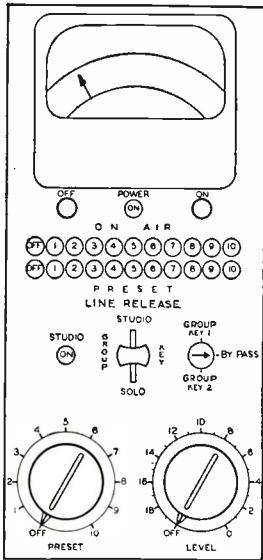
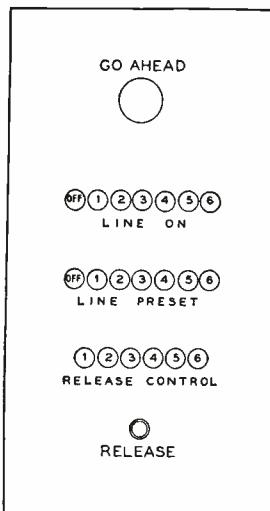
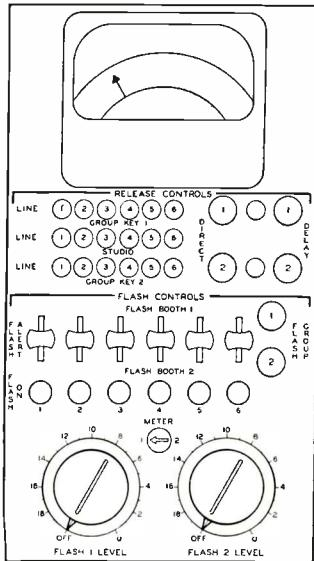

Figure 2
Figure 3
Figure 4
The features and flexibility of this system can be readily understood by a review of the functions of the controls and indicators on the Individual Line Control Panel for Channel 1 and the Studio Control Signal Indicator Panel for Studio 1 shown in detail in Figures 2 and 3, page 24. The control panels of the other five lines and nine studios are identical. The Group Release and Flash Control panel is also shown detailed in Figure 4, page 24, and will be described below.
The ON and OFF push buttons and associated POWER ON lamp are located on each Line Control Panel (see Figure 2) immediately beneath the Line Volume Indicator Meter. These push buttons control d-c energizing power to the lamps and relays of the respective line unit. This enables positive control by the Master Control Operator of program dispatching to each line and prevents unauthorized connection to the line.
channel, if the manual PRESET switch (lower left-hand corner) is in the OFF position, the POWER ON lamp and the OFF lamps in both the ON AIR and PRESET rows together with the OFF lamps in both the LINE ON and LINE PRESET rows on the Studio Control Signal Indicator Panel (see Figure 3), will be illuminated. The manual PRESET knob is used to select the studio to be connected to the line at the next operation of the LINE RELEASE key. When this knob is turned to 1, the number 1 PRESET lamp illuminates on the Line Control Panel, and the corresponding number 1 PRESET lamp on the Control Signal Indicator Panel in the respective Studio No. 1 will give a like indication showing that the Studio No. 1 is preset for connection to line 1. The respective OFF lamps, of course, extinguish.
The LEVEL knob at the lower right hand corner of the Control Panel (Figure 2) and
Above it was mentioned that release control can be extended to other points than the individual line release key. When the line is to be released only at the end of a program, the RELEASE control can be extended to the Control Booth Operator by placing the Line Release Key in the STUDIO position. When the RELEASE function has been transferred to the Control Booth Operator, the Release Control Lamps show what lines are subject to his release. In this condition, the release function is controlled by the RELEASE button on the Studio Control Signal Indicator Panel (Figure 3) in the Studio Booth to which the line is connected.
The three-position switch designated GROUP KEY 1—BY PASS—GROUP KEY 2 (see Figure 2) on each line control panel is used to transfer the release function to either of the respective Group Keys on the Group Release and Flash Control Panel. This panel, Figure 4, includes three rows of indicator lamps immediately beneath the Volume Indicator Meter to show what lines are under the release control of GROUP KEY 1, STUDIO, and GROUP KEY 2. The two Group Release Keys (located at the right of their accompanying row of indicator lamps and marked DIRECT) serve to switch the one or more lines simultaneously. Adjacent to the DIRECT Group Release keys are two additional keys with associated lamps for Delayed Switching.
**INDIVIDUAL LINE CONTROL PANEL — Figure 2, page 24 (Located in Master Control)**
**CONTROL SIGNAL INDICATOR PANEL — Figure 3, page 24 (Located in Studio Control Booth)**
**GROUP RELEASE AND FLASH CONTROL PANEL — Figure 4, page 24 (Located in Master Control)**
much beyond curve B in Figure 3.
Figure 2, page 5, shows a typical studio set-up. The method of setting the distances and choosing the types of microphone has already been described. However, a sample computation may be helpful.
Assume a 20-piece orchestra and a crooner in a studio crowded to the curve marked B, Figure 3. Therefore, the studio volume is about 22,000 cu. ft. and it should have a reverberation time of about 1.1 seconds (see Figure 4) with orchestra.